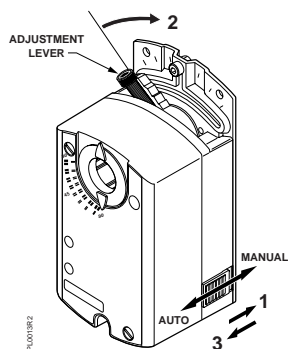

Figure 9. Manual Override.
2. If the blades will rotate counterclockwise, slide the manual override switch to manual, and move the adjustment lever to the right. Return the switch to automatic. See Figure 9.
1. Slide the red manual override knob toward the back of the actuator. See figure 9.